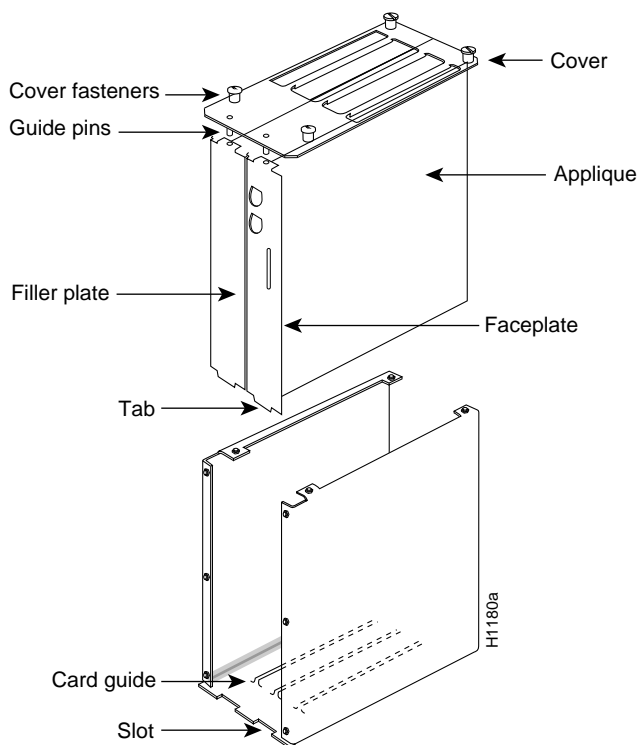

Figure 10 FDDI Applique and Applique Card Cage—Exploded View
- Step 3** Remove the top cover of the applique card cage by loosening the four cover fasteners that secure it. (See Figure 10.)
- Step 4** If the card cage is empty, remove both filler plates from the rear. (See Figure 10.) If an applique is currently installed, remove only the filler plate.
- Step 5** If you are installing only one applique in an empty card cage, install the FDDI applique, with its attached faceplate, into the right side of the card cage. (Orient the card cage as in Figure 10 for the following steps.)
- Step 6** Position the applique so the status LEDs are on the bottom. Ensure that the tab on the bottom of the applique faceplate is inserted into the slot in the bottom of the applique card cage and that the applique is seated in the card guide. (See Figure 10.)
- For two appliques only—If you are installing a second FDDI applique in the card cage, install it in the left side of the card cage by sliding it down so that the faceplate aligns with the faceplate of the applique on the right side of the card cage. Insert the applique into the card cage with the status LEDs on the bottom. Ensure that the tab on the bottom of the applique faceplate is inserted into the slot in the bottom of the applique card cage and that the applique is seated in the card guide. (See Figure 10.)
- Step 8** Replace the top cover of the applique card cage. Ensure correct alignment of the cover with the two guide pins on the bottom of the cover. The guide pins should pass through the alignment holes in the tabs on the top of each applique and faceplate assembly. Secure the top cover to the card cage with the four cover fasteners. (See Figure 10.)